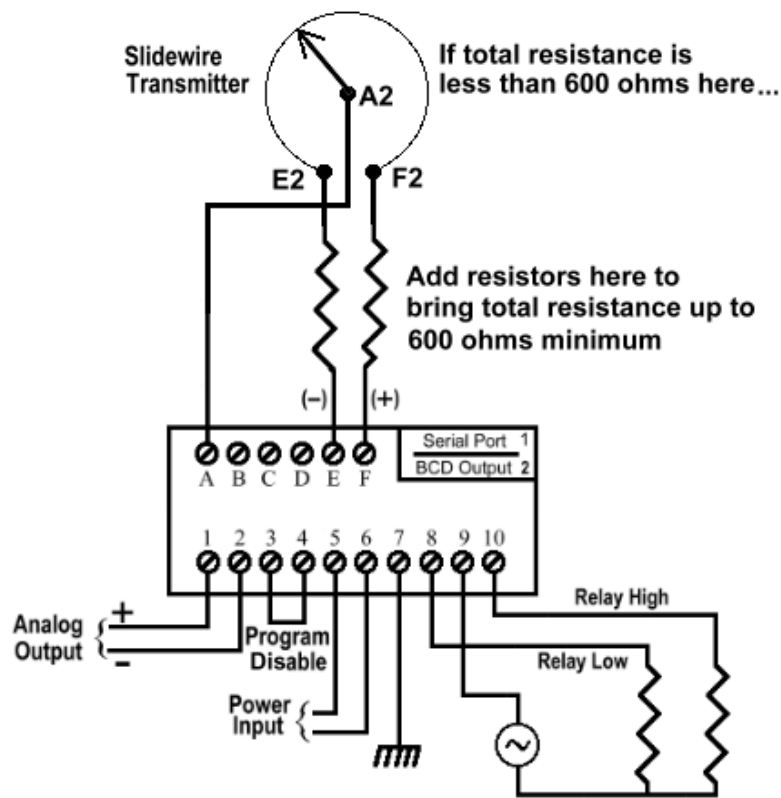

Figure 1.4 Field Wiring Diagram for Low Resistance Transmitters
- 1) **The resistive position transmitter must be at least 600 ohms total.** If the total resistance is lower than 600 ohms, resistors must be added to bring the total resistance up to 600 ohms or more. (See Figure 1.4)
To prevent accidental or unwanted changes to the program parameters, a jumper wire may be installed across terminals 3 & 4 (see Figure 1.4). With this jumper installed, the numeric menu will read "EP nn" instead of "OP nn". All parameters can be viewed but no changes can be made.